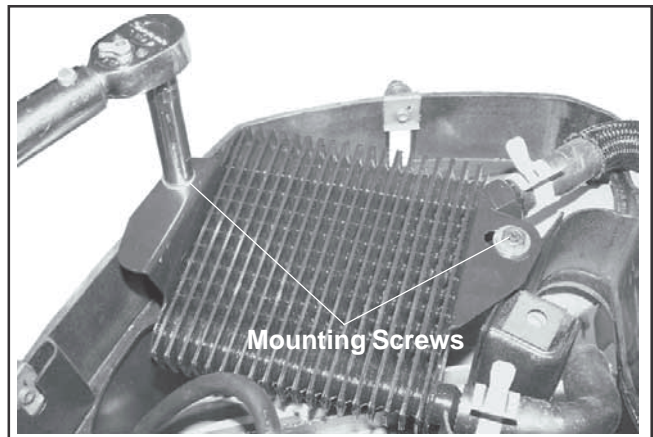

Figure 10-86. Installing Oil Cooler.
2. Align the oil cooler with the bosses in the backing shroud assembly. Secure with the two screws and washers. See Figure 10-86.